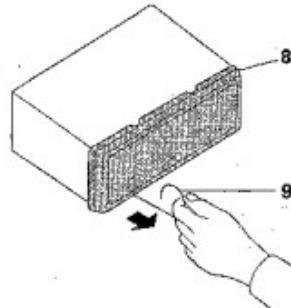

Fig. 14
1. Remove the frame. (Fig. 14)